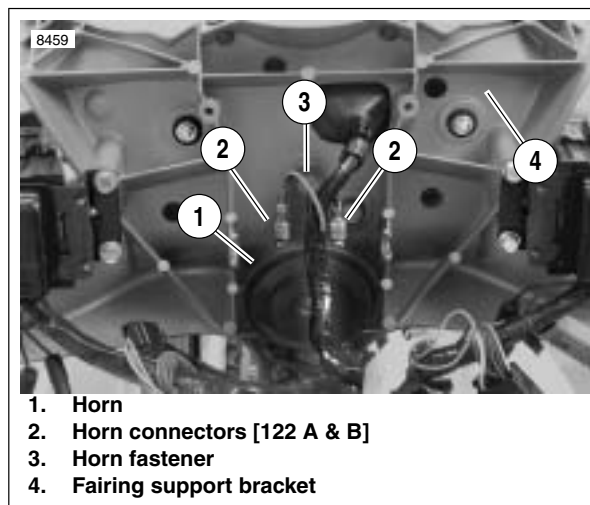
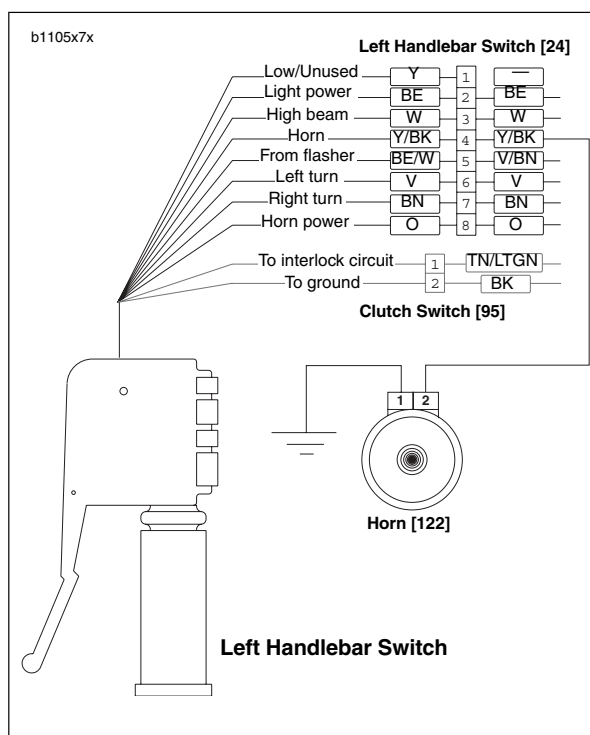

Figure 7-69. Horn Assembly
Figure 7-70. Horn Wiring
4. See Figure 7-69. Remove fastener (3).
5. Remove horn (1) from fairing support bracket (4).
6. See Figure 7-70. Detach Y/BK power wire and BK ground wire from terminal clips on horn.
1. See Figure 7-70. Connect Y/BK power wire and BK ground wire to terminal clips on horn.
2. See Figure 7-69. Attach horn (1) to fairing support bracket (4) using fastener (3). Tighten to 72-96 **in-lbs** (8.1-10.8 Nm).
- a. See Figure 7-70. Remove Y/BK power and BK ground wires from terminal clips.